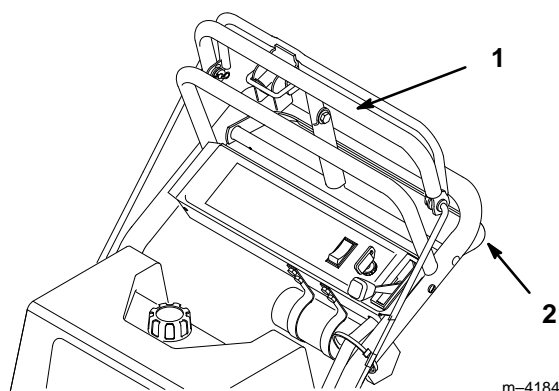

Figure 14
3. Slowly press on the upper control bar to move forward (Fig. 14).
To go straight, apply equal pressure to both ends of the upper control bar (Fig. 14).
To turn, release pressure on the upper control bar side away from the direction you want to turn (Fig. 14).
3. Slowly squeeze the lower control bar and handle together to move rearward (Fig. 14).
To go straight, apply equal pressure to both ends of the lower control bar (Fig. 14).
To turn, release pressure on the lower control bar side in the direction you want to turn (Fig. 14).